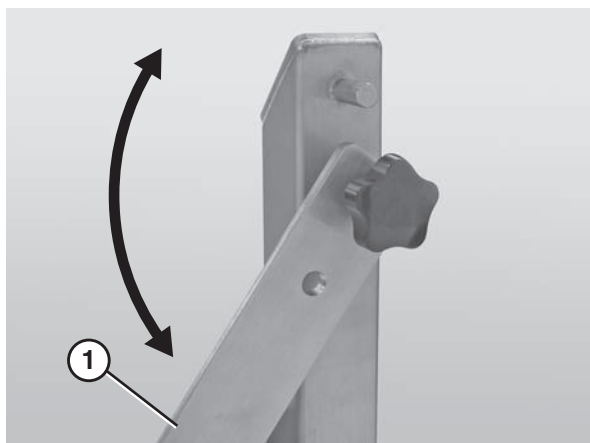

Figure 45
6. Lower the quick release arm (**Figure 45, item 1**) on one of the stands. *Note: if the conveyor is not equipped with Quick Release (QR Type) stands, it will be necessary to remove the entire stand.* For detailed instructions, refer to the “Sanitary Support Stands Installation, Maintenance and Parts Manual.”